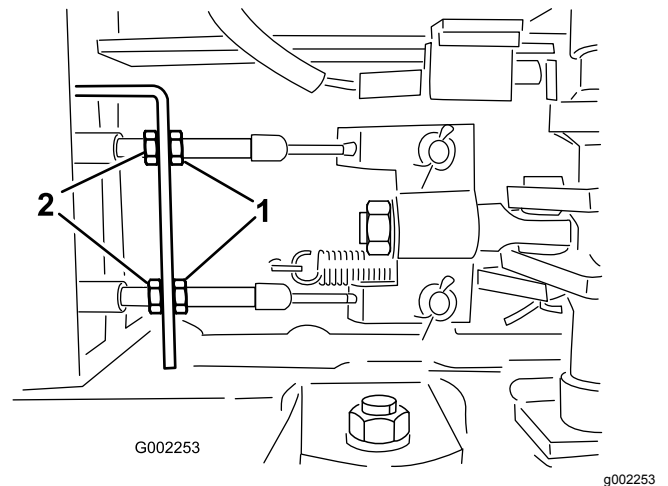

Figure 73
- Loosen the front nuts on the brake cables under the front end of the sprayer (Figure 73).
- Tighten the rear nuts equally until the brake pedal moves between 1 to 2 cm (1/2 to 1 inch) before you feel resistance (Figure 73).